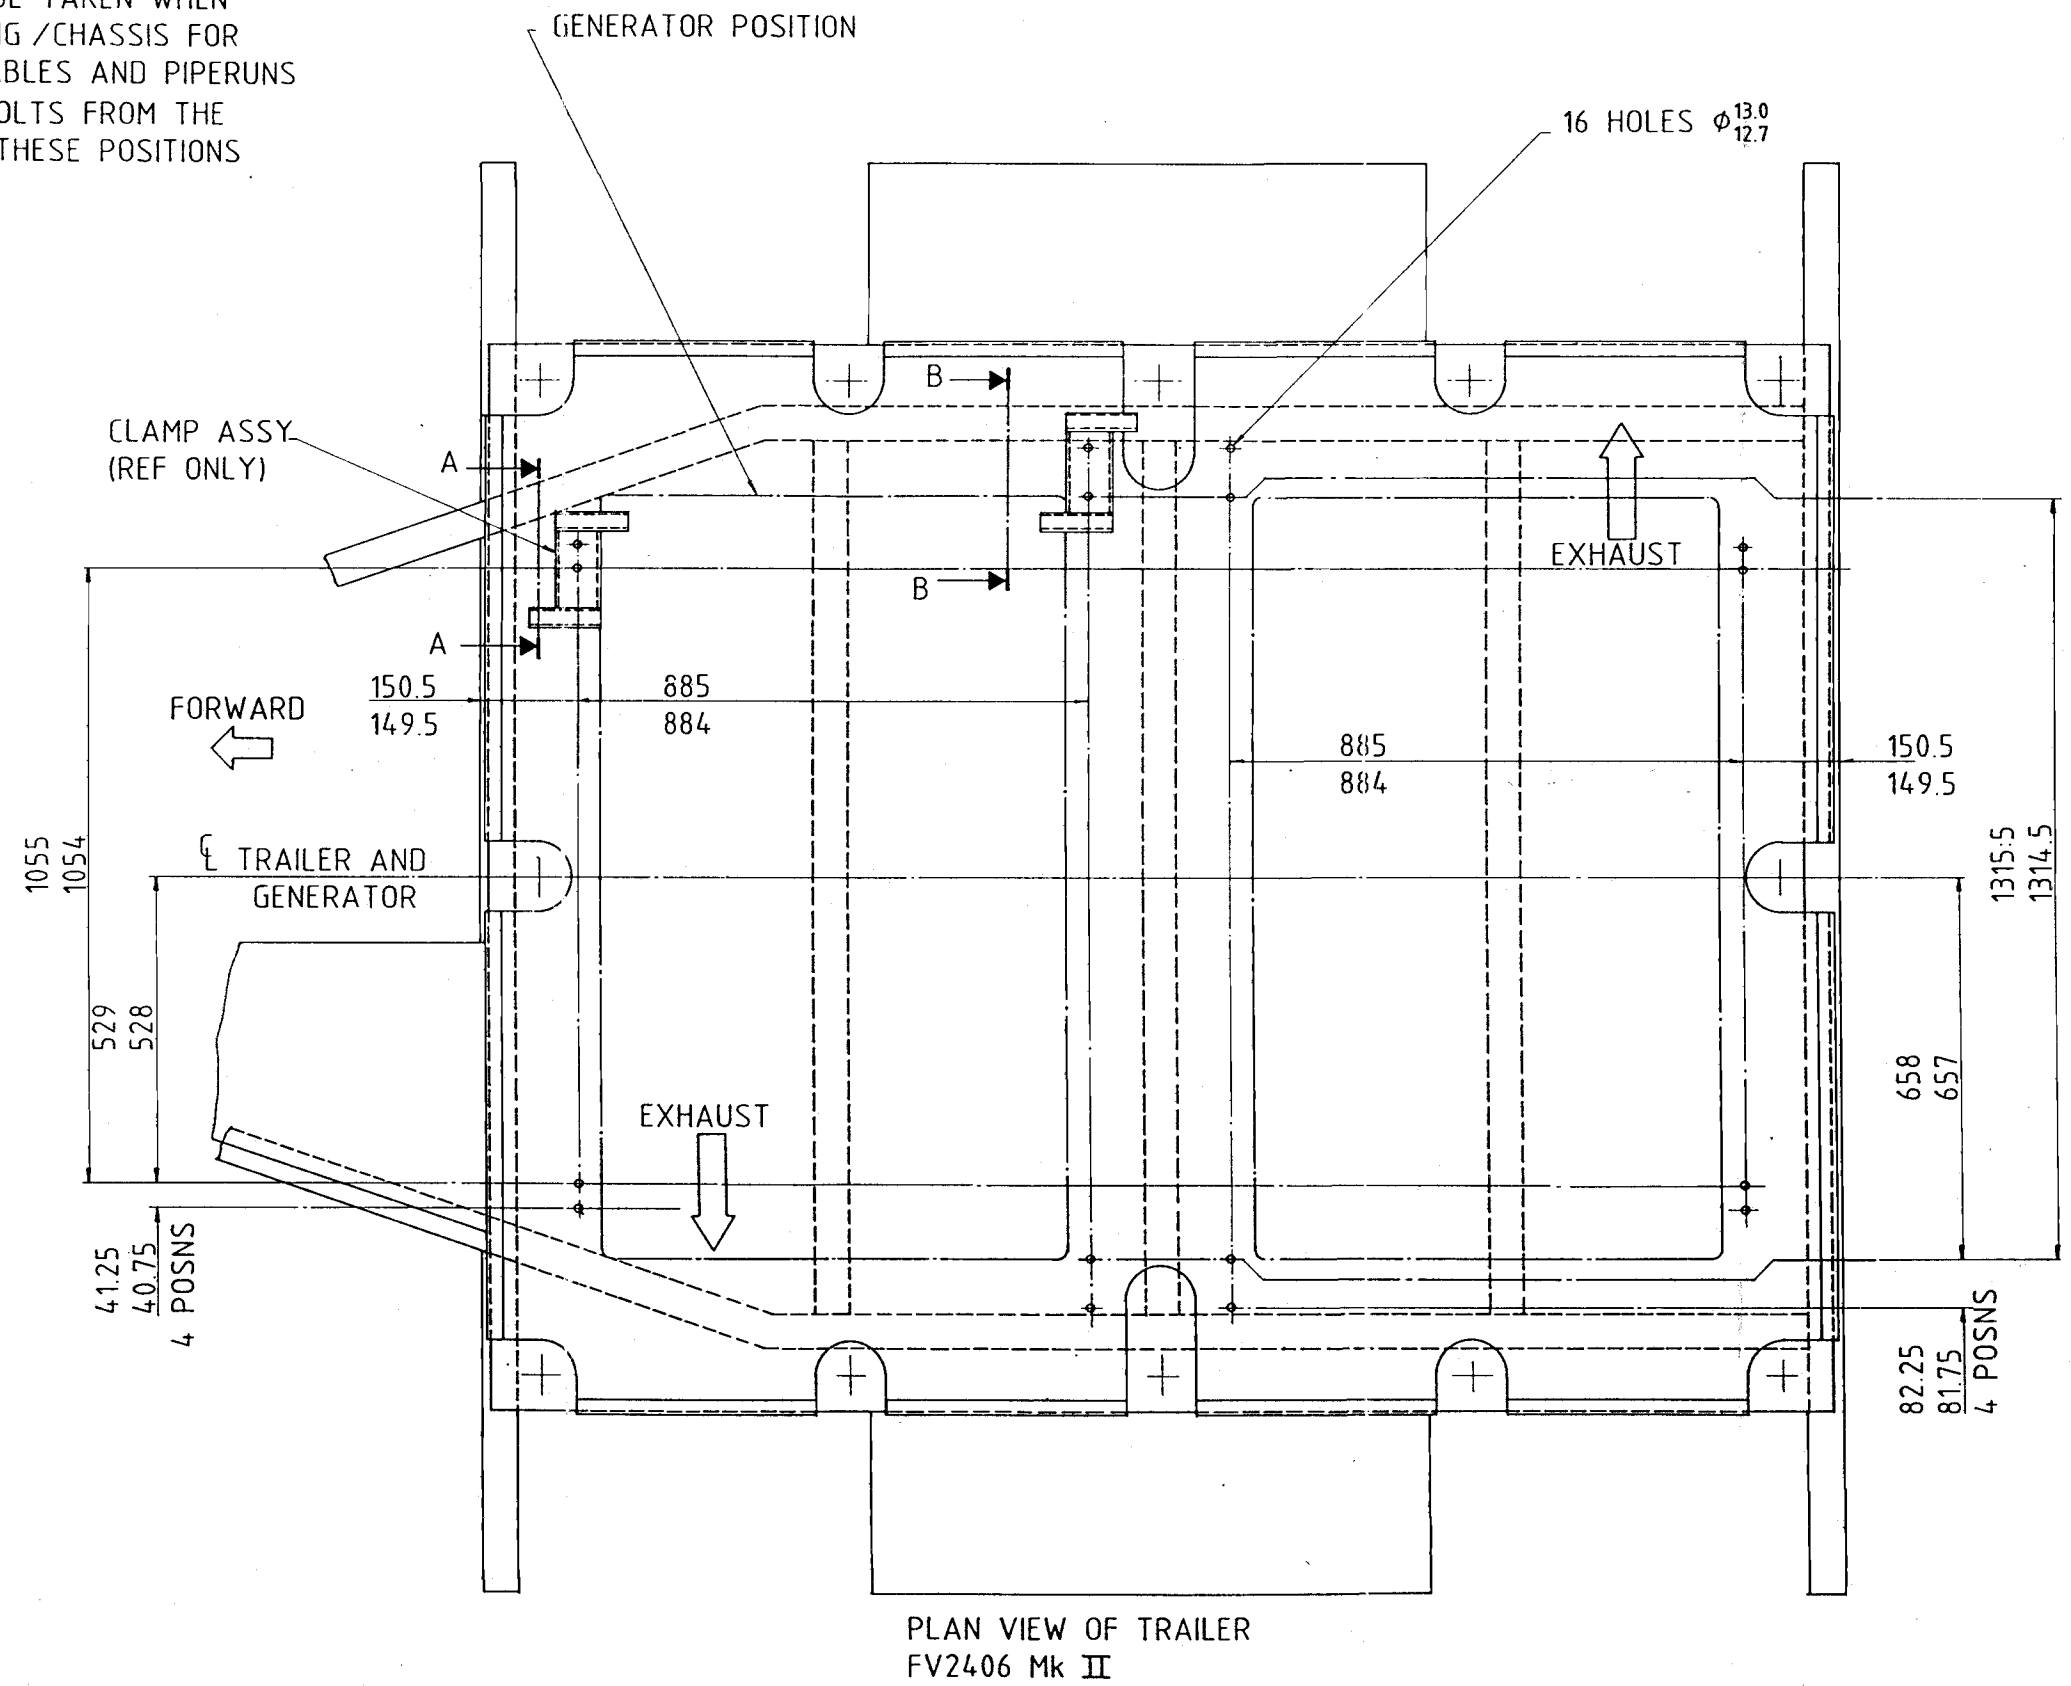

Fig 5 Mounting Data for FV2406 Mk. II
6. The generator set can be mounted onto the FV2406 Mk. II trailer using the Air-Log Ltd. Parts Kit No. 4-4169-1-122 the contents of which are listed in TABLE 2. The generator set is mounted in accordance with the instructions contained in figure 5.
\* see Fig. 5 for mounting detail.